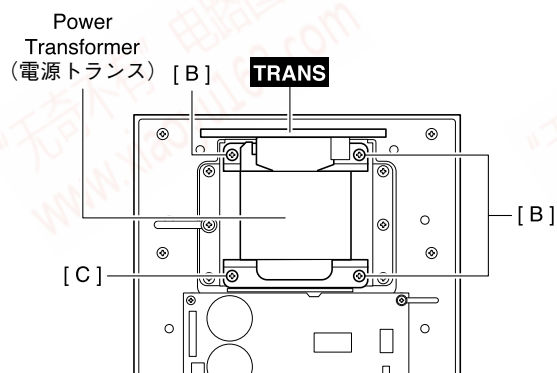

Fig. 4 (図 4)
- 4-2 Remove the three (3) screws marked [B] and screw marked [C]. The power transformer with TRANS circuit board can then be removed. (Fig. 4)
- 4-2 [B]のネジ3本、[C]のネジを外し、電源トランスとTRANSシートを外します。(図4)
- 5-2 Remove the three (3) screws marked [B] and screw marked [C]. The power transformer can then be removed. (Fig. 4)
- 5-2 [B]のネジ3本と[C]のネジを外し、電源トランスを外します。(図4)